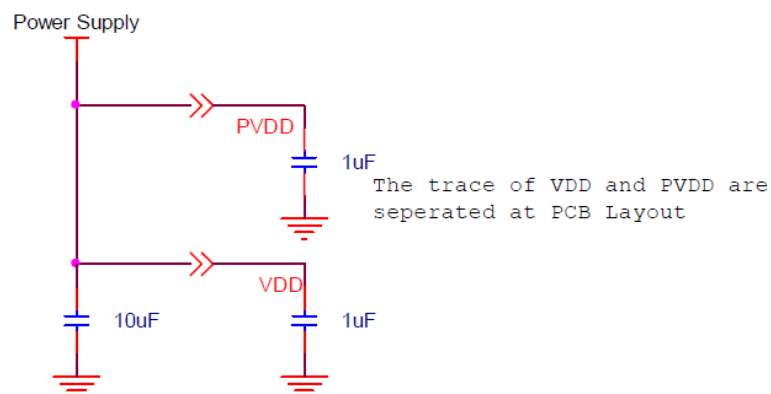

Figure 1 Power Supply Decoupling
- (1) Both VDD and PVDD need to be decoupled by 1 μ F capacitance, and the traces are separated and then tied together in system power supply (Figure 1)